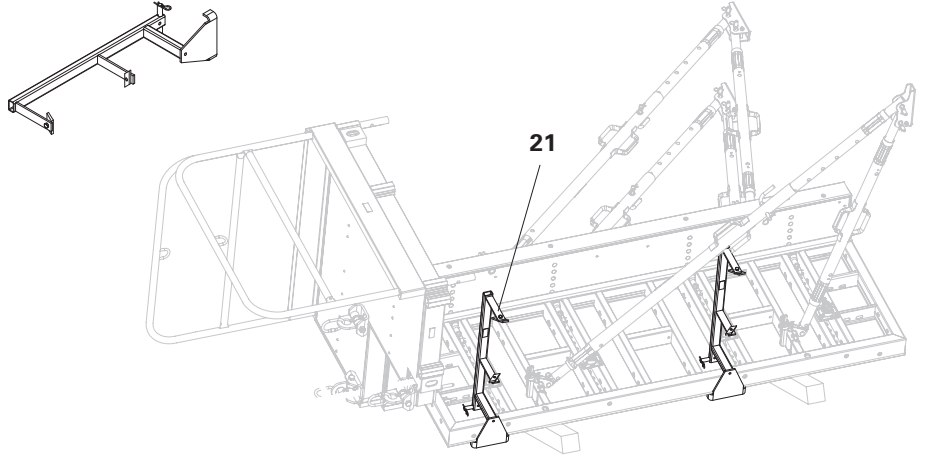
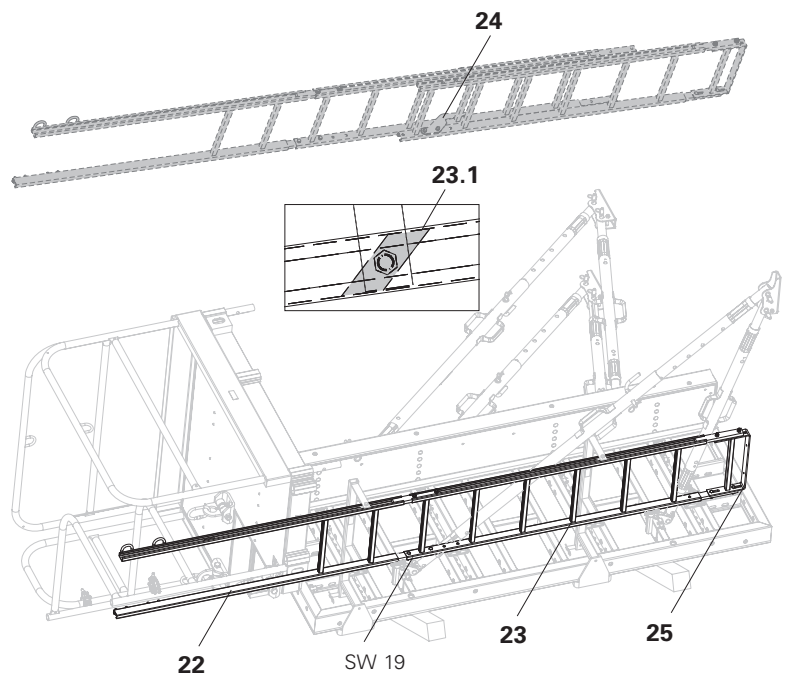

Fig. A3.06
Fig. A3.07
1. Place Ladder Connector TRIO (21) on the frame and fix in the panel strut by means of bolts. (Fig. A3.06)
- Connect End Ladder 180/2 (22) with Ladder 180/6 (23), SW 19. Depending on the height, mount additional ladders 180/6.
- Mount Ladder Hooks (24) and Ladder Base (25) to the bottom-most ladder, SW 19. (Fig. A3.07)